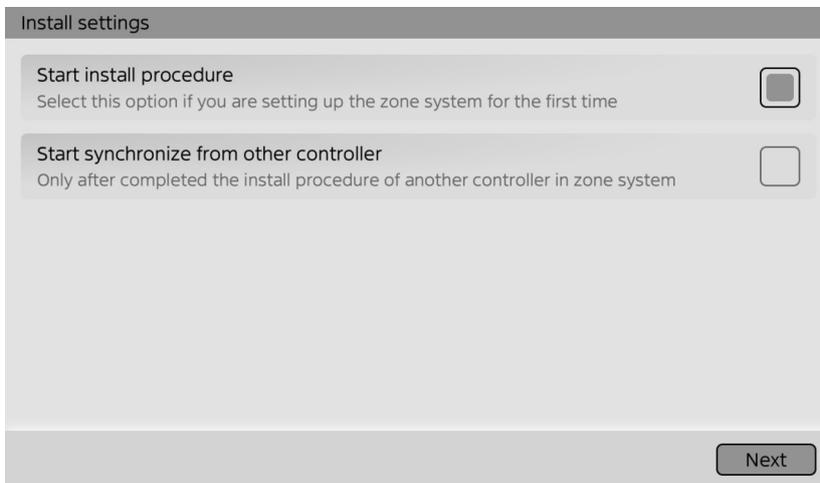

Fig 1.1
1. Choose **[Start install produce]** option after system start up. (Fig 1.1)